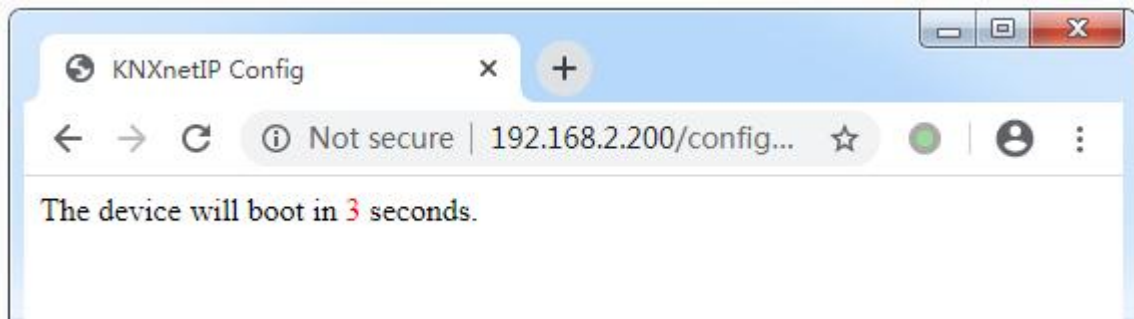

Fig. 6.2
⑨ **【Save And Reset】** : Click this button to save and reset after setting changes are completed. At this time, the page will jump to the window as shown in Fig.6.2, indicating that the device is restarting. After restarting, the page will automatically return to the configuration window.